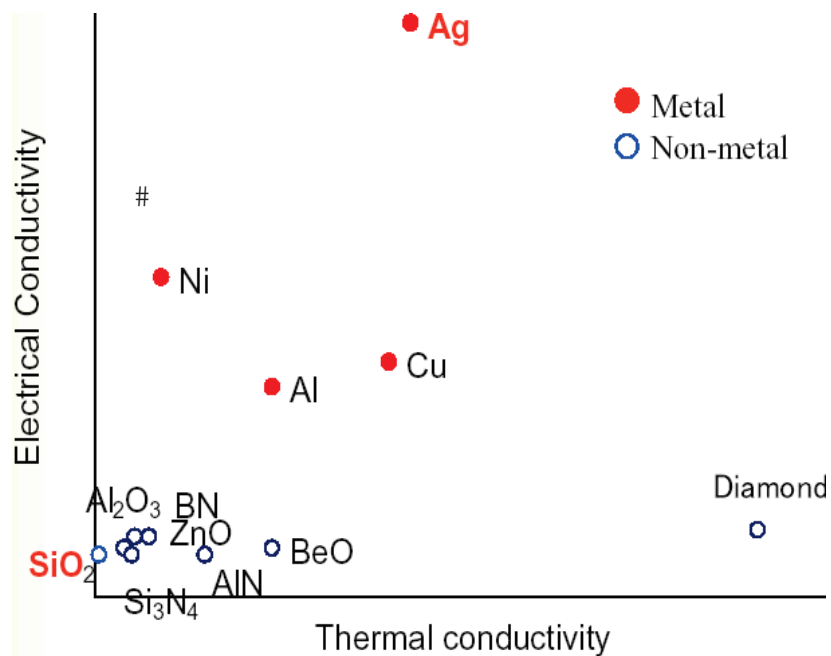

Figure 1 Electrical conductivity and thermal conductivity of metal and non-metal materials
- (5). (a). Proper selection of the most suitable die attach material for a product and application is very important. Referring to Figure 1, discuss requirement and selection of filler materials used for die attach paste.